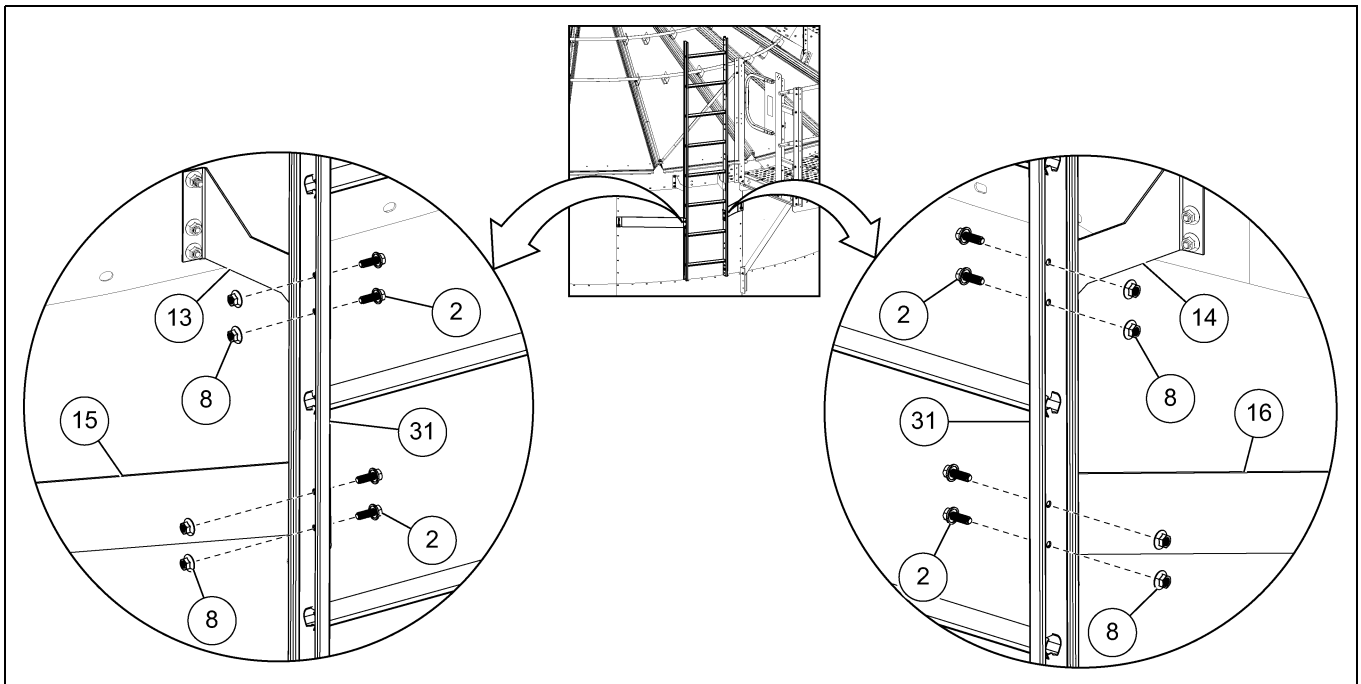

Figure 7C Installing the Ladder Section
3. Install the ladder section (31) to the ladder starting brackets (13 and 14) and ladder brace brackets (15 and 16) using 5/16" x 1" flange bolts (2) and 5/16" flange nuts (8). (See Figure 7C.)